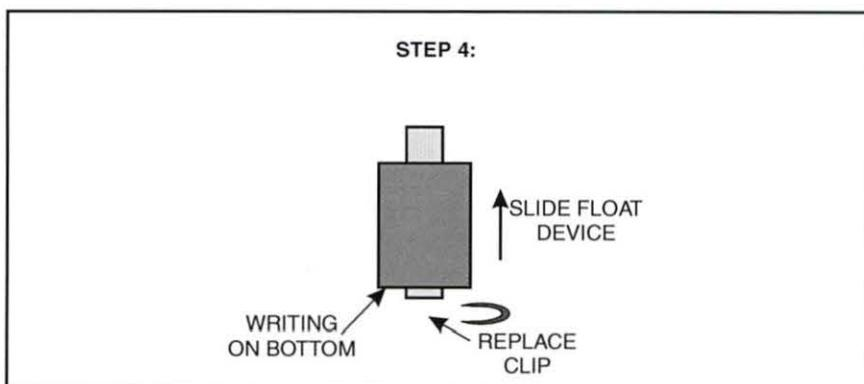

Figure 20. Replace Float Device and Retaining Clip
- D. Slide the float device back on the shaft and replace the retaining clip, as shown in figure 20.